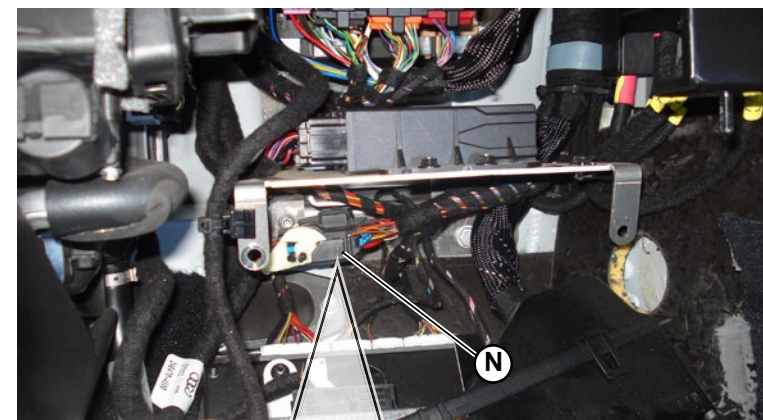

Fig.10
22. In the zone behind the foot-rest of the passenger side, locate the big black connector (**N-Fig.10**) present behind the fuse box; it's the connector of the harness that goes into the fuse box.
23. Remove 10 cm of protective tape from the wire assembly of the black connector (**N-Fig.10**). During this operation pay attention in order to don't cut the wires.
STOP Do not disconnect wires present in the car from the connector. Simply connect to them, without cutting them. All connections between wires must be soft soldered and must then be protected with insulating tape (as shown in Fig.10). After making all of the connections, protect the visible part of the wiring harness with black flock tape. Be careful not to damage the car's interior when creating these connections.
24. It's necessary connect the wires of the VTS harness to the car's wires those are connected with the black connector (**N-Fig.10**) of the fuse box. To carry out this operation follow the instructions those are present in the following table: